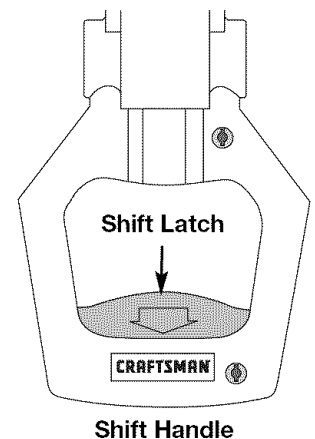

Fig. 3
- If the shift handle is in the UP position, grasp the red shift latch (Fig. 3) on the shift handle and squeeze until the internal locking mechanism releases.
- If the shift handle is in the DOWN position, grasp the red shift latch (Fig. 3) on the shift handle and squeeze until the internal locking mechanism releases.